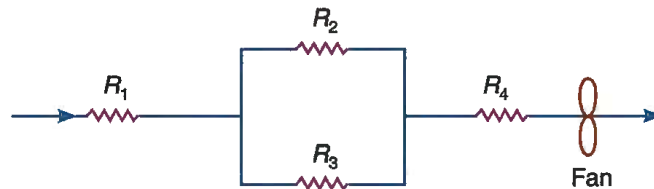

Fig. 21.21
5. A fan is connected to a system as shown in Fig. 21.21, where